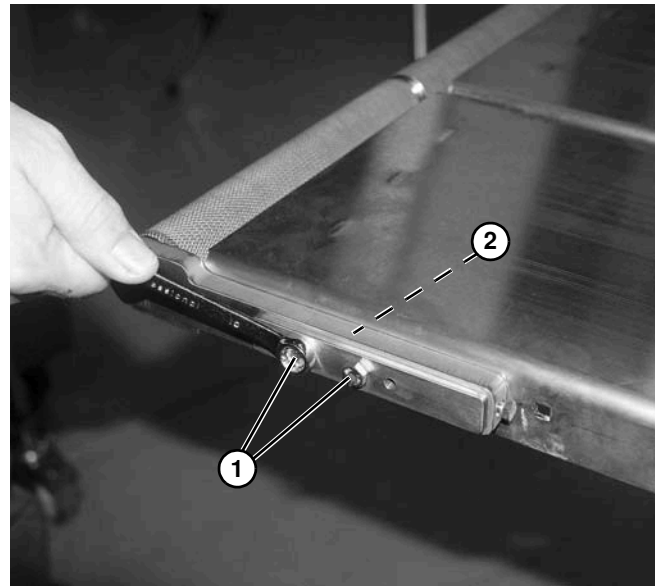

Figure 60
2. Remove two screws (Figure 60, item 1) and connecting strip (Figure 60, item 2) from side of conveyor opposite drive shaft.